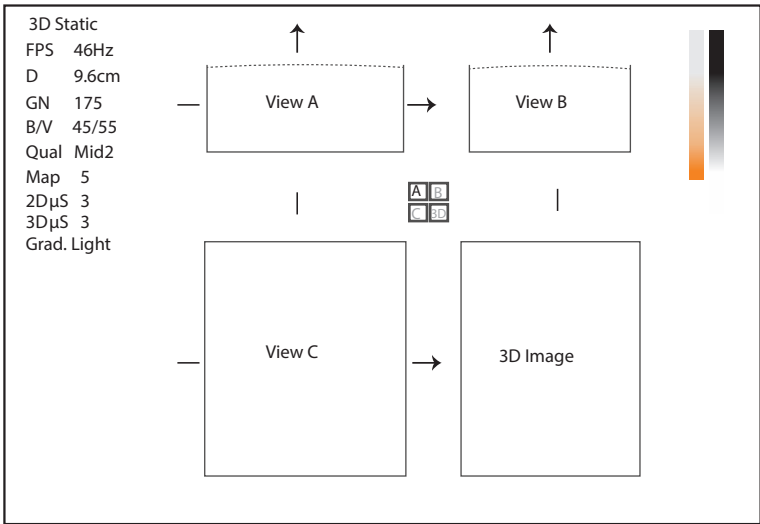

Figure 6-34 3D Imaging Screen
8. Tap , , or  to select a display format, and tap **Start** or press the  key to display the 3D imaging in a full, dual or quad display. The system automatically enters the 3D imaging in a quad display by default. Take 3-dimensional gray-scale image in quad display as an example, the imaging area of the screen is divided into 3 reference images and a 3D image by default, as shown in Figure 6-34.